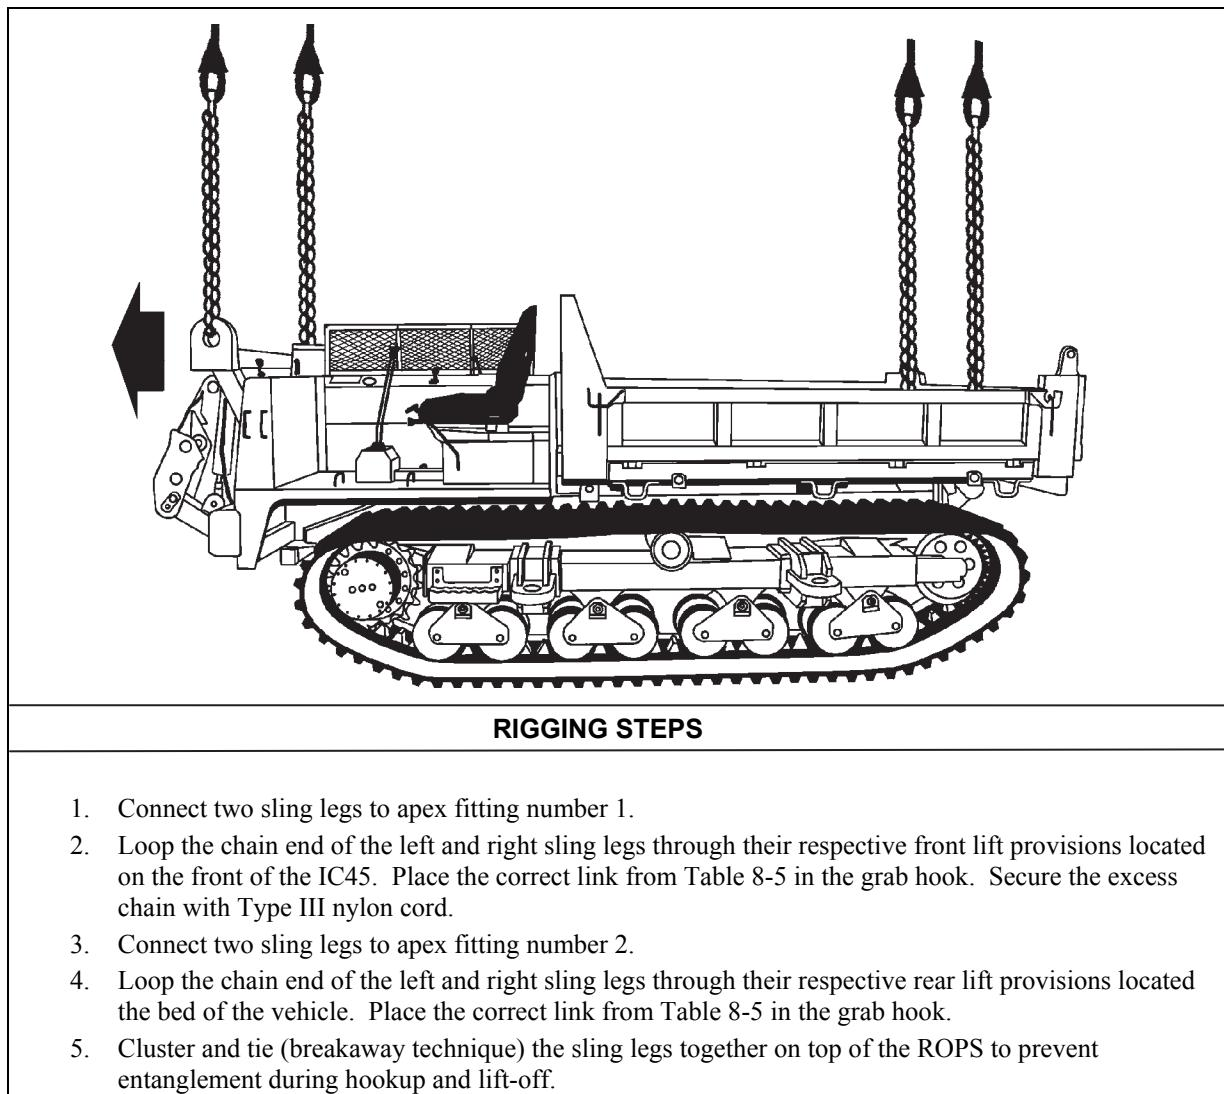

Figure 8-5. IC45 Crawler Carrier
- **Rigging.** Rig the load according to the steps in Figure 8-5.